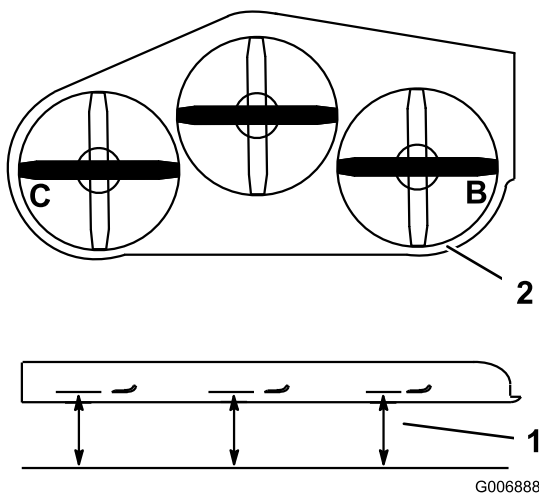

Figure 81
1. Position the **right** blade side-to-side (Figure 81).
2. Measure the right blade at the **B** location, from a level surface to the cutting edge of the blade tip (Figure 81).
4. Position the left blade side-to-side (Figure 81).
5. Measure the left blade at the **C** location (Figure 81), from a level surface to the cutting edge of the blade tip.